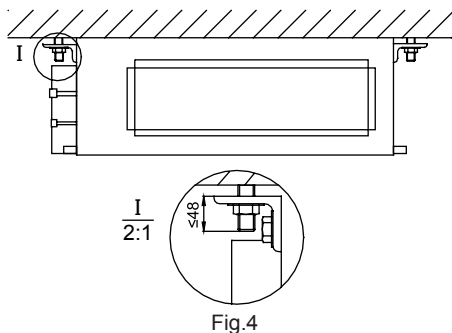

Fig.4
- (2) Install the hook on the unit, as shown in fig.4.
- (3) Install the indoor unit to the ceiling as shown in fig.4.